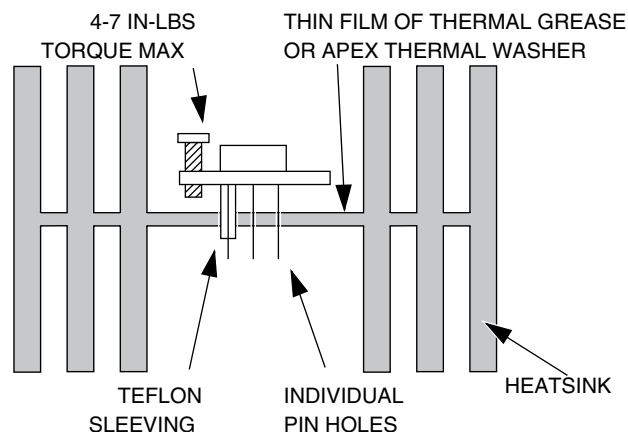

FIGURE 14. MOUNTING CONSIDERATIONS
- 3) *Do not over torque the case.* Recommended mounting torque for the TO-3 and SIP packages is 4-7 in-lbs (.45-.79 N-m) and for the MO-127 Power Dip™ packages (PD10 AND PD12) is 8-10 in-lbs (.90-1.13 N-m). Refer to Figure 14. Apply a thin, uniform film of thermal grease or an Apex thermal washer between the case and heatsink. Apply small increments of torque alternately between each screw when mounting the amplifier.